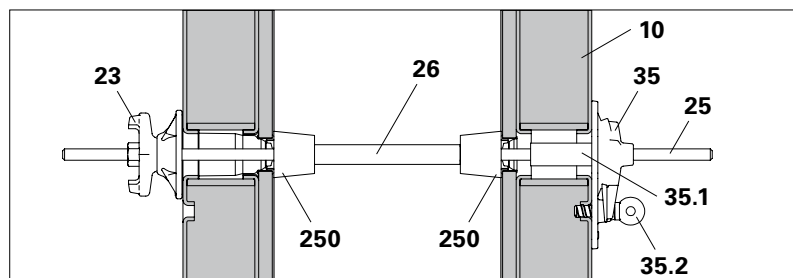

Fig. A5.11
- Version 2 with DK Sealing Cone DW 15/55 (Fig. A5.11)